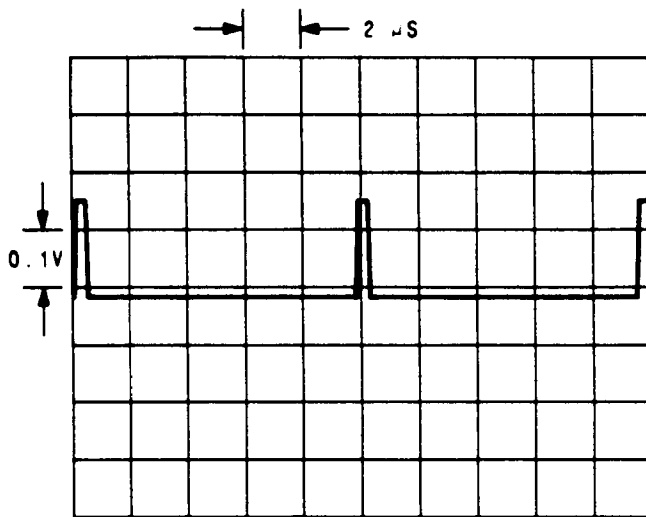

Figure 8. Oscilloscope Display of TP22, Sample and Hold Pulse, W6 removed, Signal Generator's frequency is 960 MHz, Low Frequency Loop is unlocked.
3. If +5V is not present at TP23, check the Sample and Hold pulse at TP22 (SAMPLE). Verify that the waveform in Figure 8 is correct. (The VCO frequency with W6 removed and the Signal Generator's frequency will affect the time between pulses.)